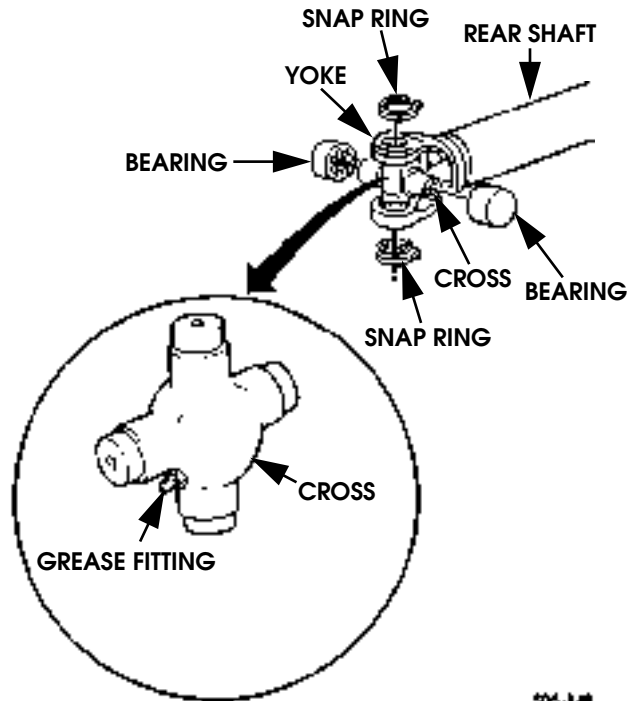

Figure 9-110: U-joint Components (Typical)
- Inspect condition of U-joint cross and bearings at each end of shaft (Figure 9-110). Replace either U-joint if worn, loose, seized. Refer to U-joint replacement in this section.